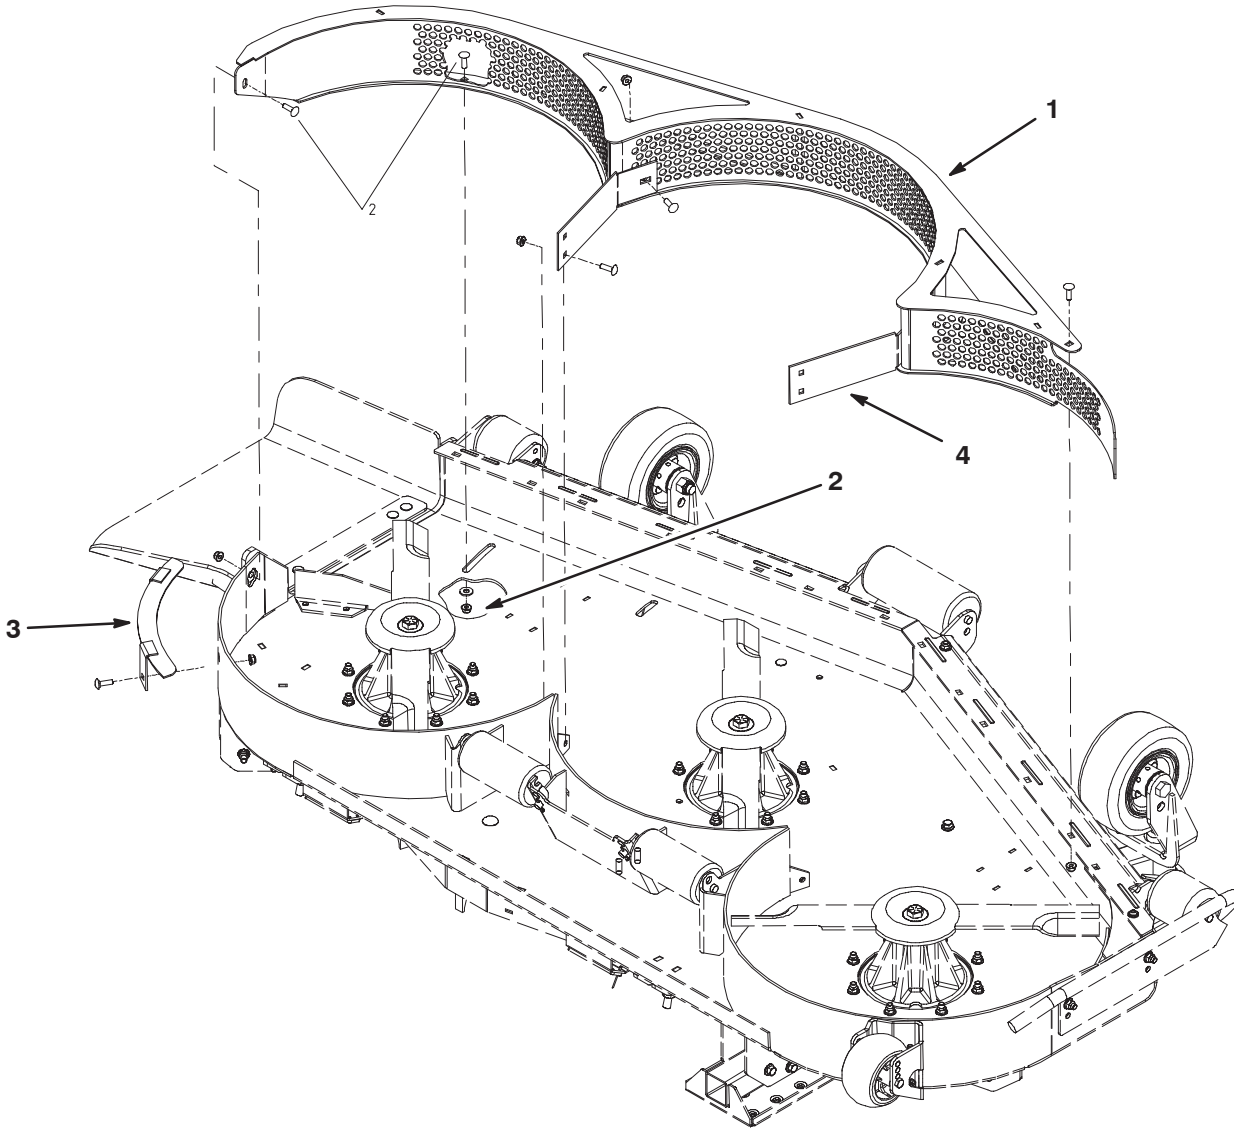

Figure 2
3. Insert the baffle assembly into the mower (Fig. 2).
4. Secure the baffle assembly to the mower with (5) carriage bolts and flange nuts. A washer is also used on the front right bolt and nut which are mounted through the slot (Fig. 2).
5. Secure the (2) divider plates to the mower and to the baffle assembly with (2) carriage bolts and flange nuts each positioning as shown in figure 2.
6. Secure the rear baffle to the mower and baffle assembly with (2) carriage bolts and flange nuts (Fig. 2).